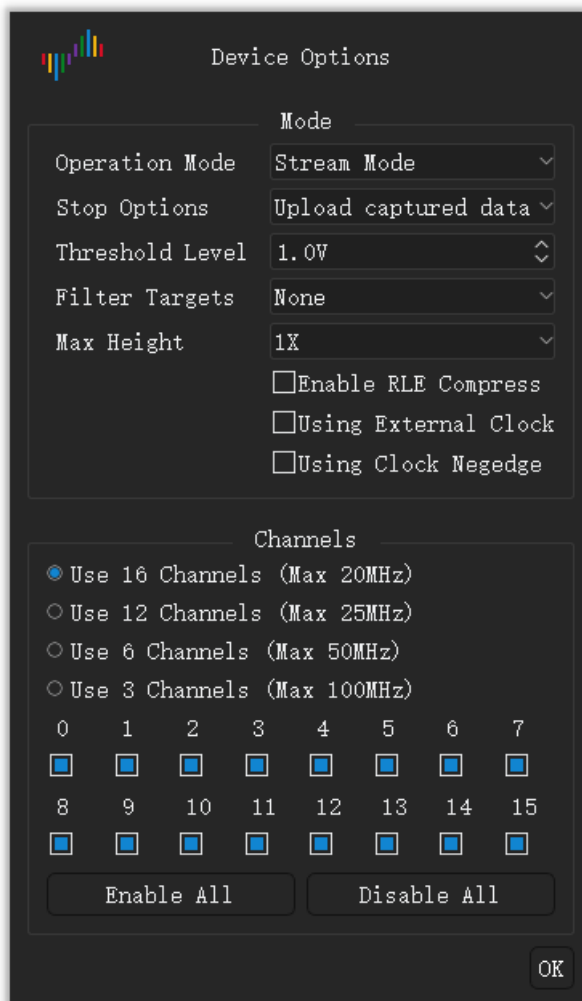

Figure 2-6
**Device Options** window will be opened (Figure 2-6).